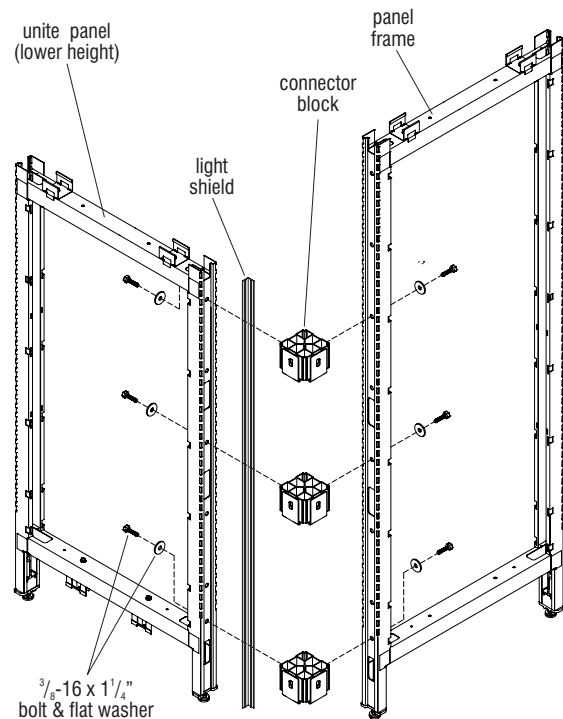

Figure 8 - Height-Change Intersection
**Note:** If two panel frames being joined are of different heights, begin with the lower-height panel, as the shorter panel determines the number of connector blocks required. Go to page 8 instructions and see Figure 8, at this time.
1. Per the space-planning layout, locate the two height-change panel frames to be joined together. Begin first with the lower-height panel as the shorter panel determines the number of connector blocks required (Figure 8).
2. Loosely attach connector blocks to the shortest vertical panel frame, as illustrated using one  $\frac{3}{8}$ -16 x  $1\frac{1}{4}$ " hex head bolt and large flat washer per connector block. Attach one connector block at the lowest mounting hole in the frame, one block at the highest, and the third connector block approximately 30" from the floor, near beltway height (Figure 8).
3. Have one person hold the shorter panel frame (with connector blocks and light shield attached) while another person attaches the taller panel frame to the mating face of the connector blocks using hex head bolts and flat washers. Hand-tighten hardware at this time (Figure 8).